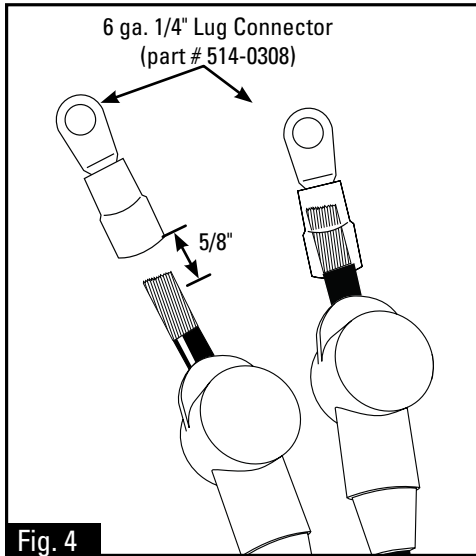
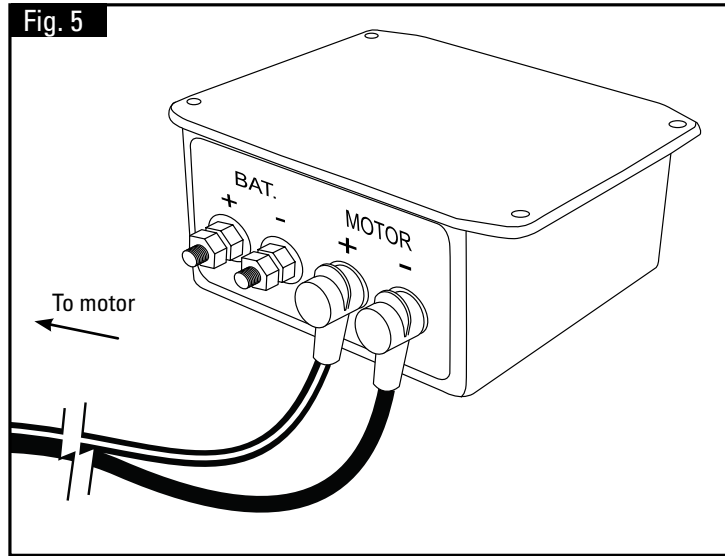
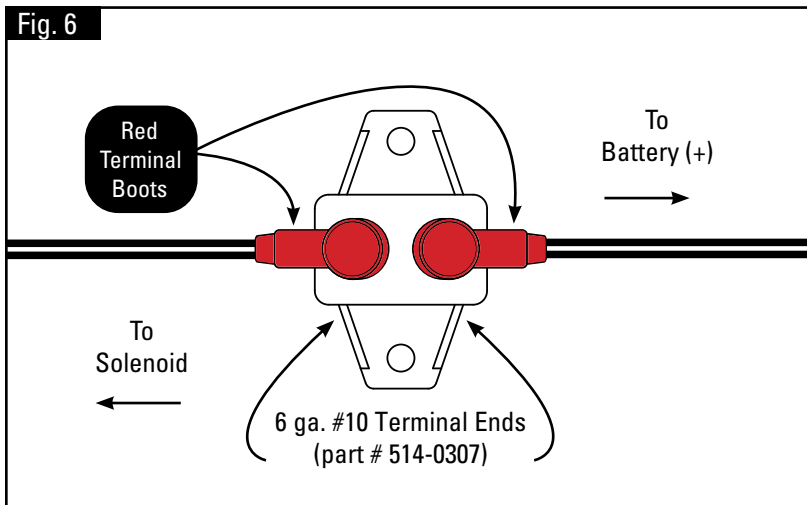

Fig. 4
Fig. 5
Fig. 6
**Step 4:** Mount the Control Box at tailgate. Split the 6 ga. wire at the Control Box about 4" back and slip on rubber boots Red Boot (part # 514-0319) on red striped wire and Blue Boot (part # 514-0342) on black wire (Fig. 6 & 7). Strip wire about 5/8" and attach connectors (part # 514-0308) (Fig. 4). Attach Red Striped wire to Motor (+) and Black wire to Motor (-) on Control Box (Fig. 5).
**Step 5:** Mount breaker in the battery box away from moisture. Cut a section in the red 6 ga. wire that will run to the positive terminal on the battery. Strip wire the ends about 5/8" and attach 6 ga. #10 terminal ends (part # 514-0307) (Fig. 5). Attach to breaker (Fig. 6)